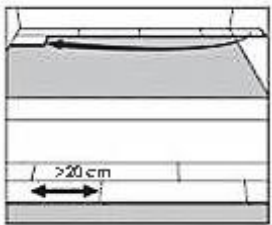

Figure 2
10. Begin the second row with the cut piece from the first row (**Figure 2**). If the cut piece is shorter than 8 in (20 cm), do not use it. Instead, begin with a new plank that is at least 8 in (20 cm) in length and allows 8 in (20 cm) between the end joints on the adjacent planks.